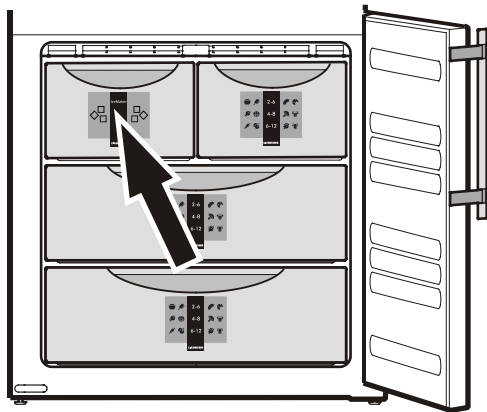

Figure 23
- The ice maker is in the top left drawer in the freezer compartment of the combined refrigerator-freezer. You can identify this drawer by its labeling **IceMaker (Figure 23)**.
Be sure the drawer is completely closed (**Figure 23**).